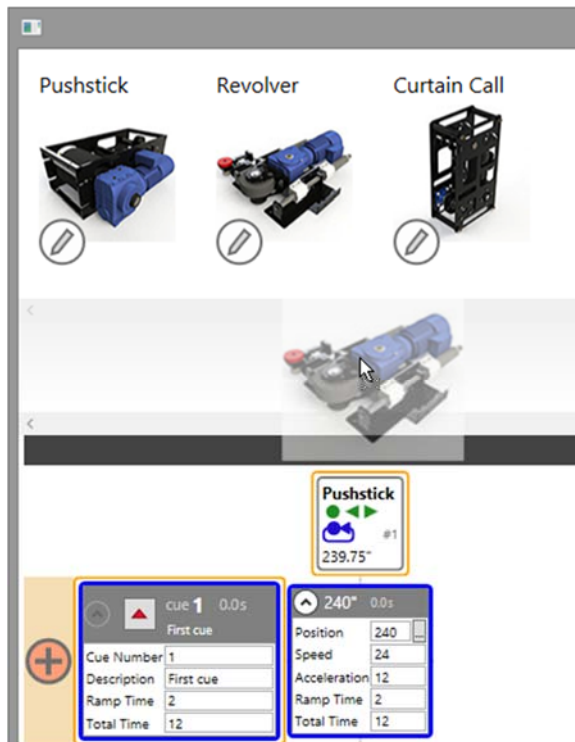

Figure 31
3. We are going to add a turntable to our show. Drag a **Revolver** from the **Machine Library** and drop it either on the **Stage Model Viewer** or the **Cue Grid** (Figure 31), either works fine.